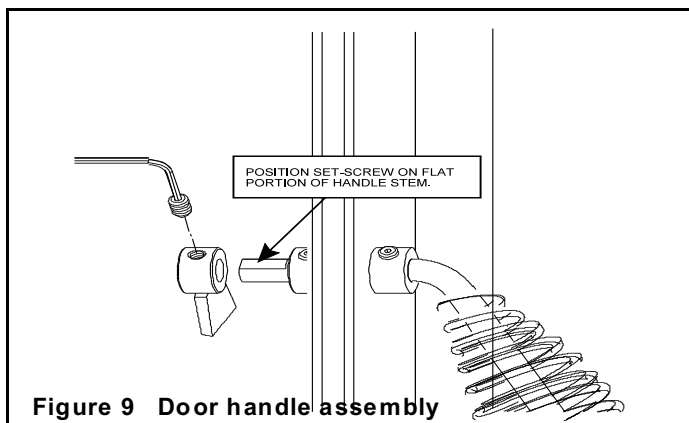

Figure 9 Door handle assembly
1. Position handle assembly through door and secure with collar by sliding over shaft and tightening with allen wrench provided (**Figure 9**).